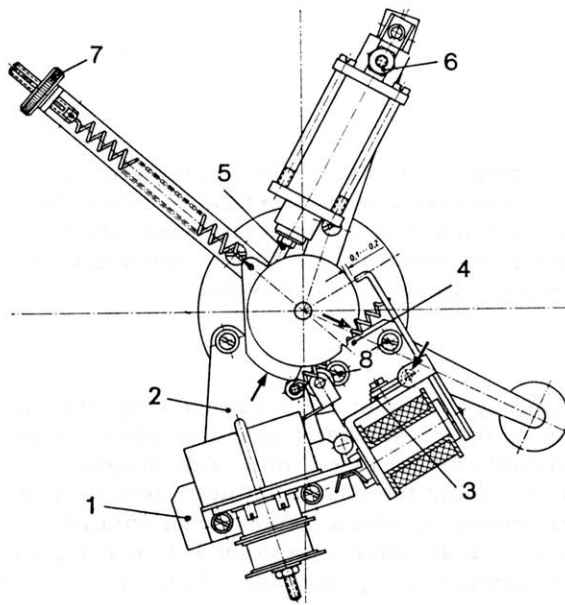

Fig. 3 Filter lever, left
the switch plate (Fig. 3, item 2).